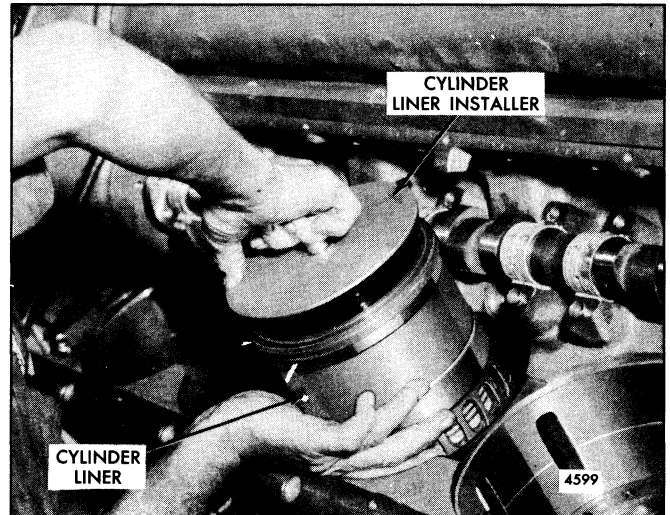

Fig. 7 - Installing Piston, Rod and Liner Assembly in Cylinder Block
6. Use cylinder liner installer J 22641 and position the piston, rod and liner assembly in front of the cylinder block bore so that the identification number and letter on the connecting rod face the outer edge of the cylinder block and the matchmarks on the liner and the block are in alignment. Guide the end of the connecting rod through the block bore carefully to avoid damaging or dislodging the bearing shell. Then, slide the piston, rod and liner assembly straight into the block bore until the liner flange rests in the counterbore of the block (Fig. 7). Remove the air box covers to see if the seal rings were dislodged or damaged during liner installation. If the seal ring(s) were damaged, small cut pieces of the seal ring will be noticed.